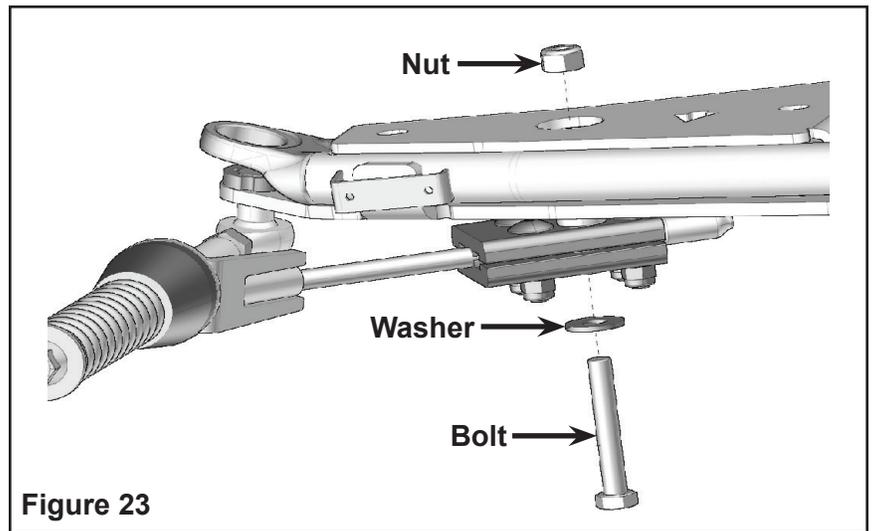

Figure 23
10. Position aluminium blocks of steering limiter assembly at center hole of bottom part of front anchor bracket. Use bolt, washer and nut to secure the assembly in the center of the anchor bracket. Tighten nut through central opening of top part to 37 ft. lbs. (50 Nm). Figure 23.